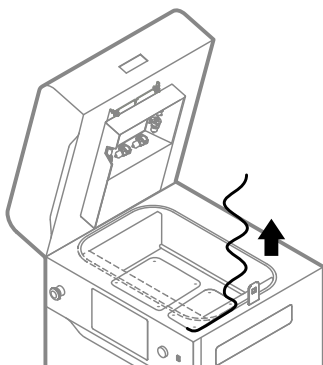

Fig. 12.24 Remove the used fiberglass rope from Print Bed.
17. Remove the used fiberglass rope around the Print Bed. You can use the metal spatula to help pull out the sealing (fig. 12.24).